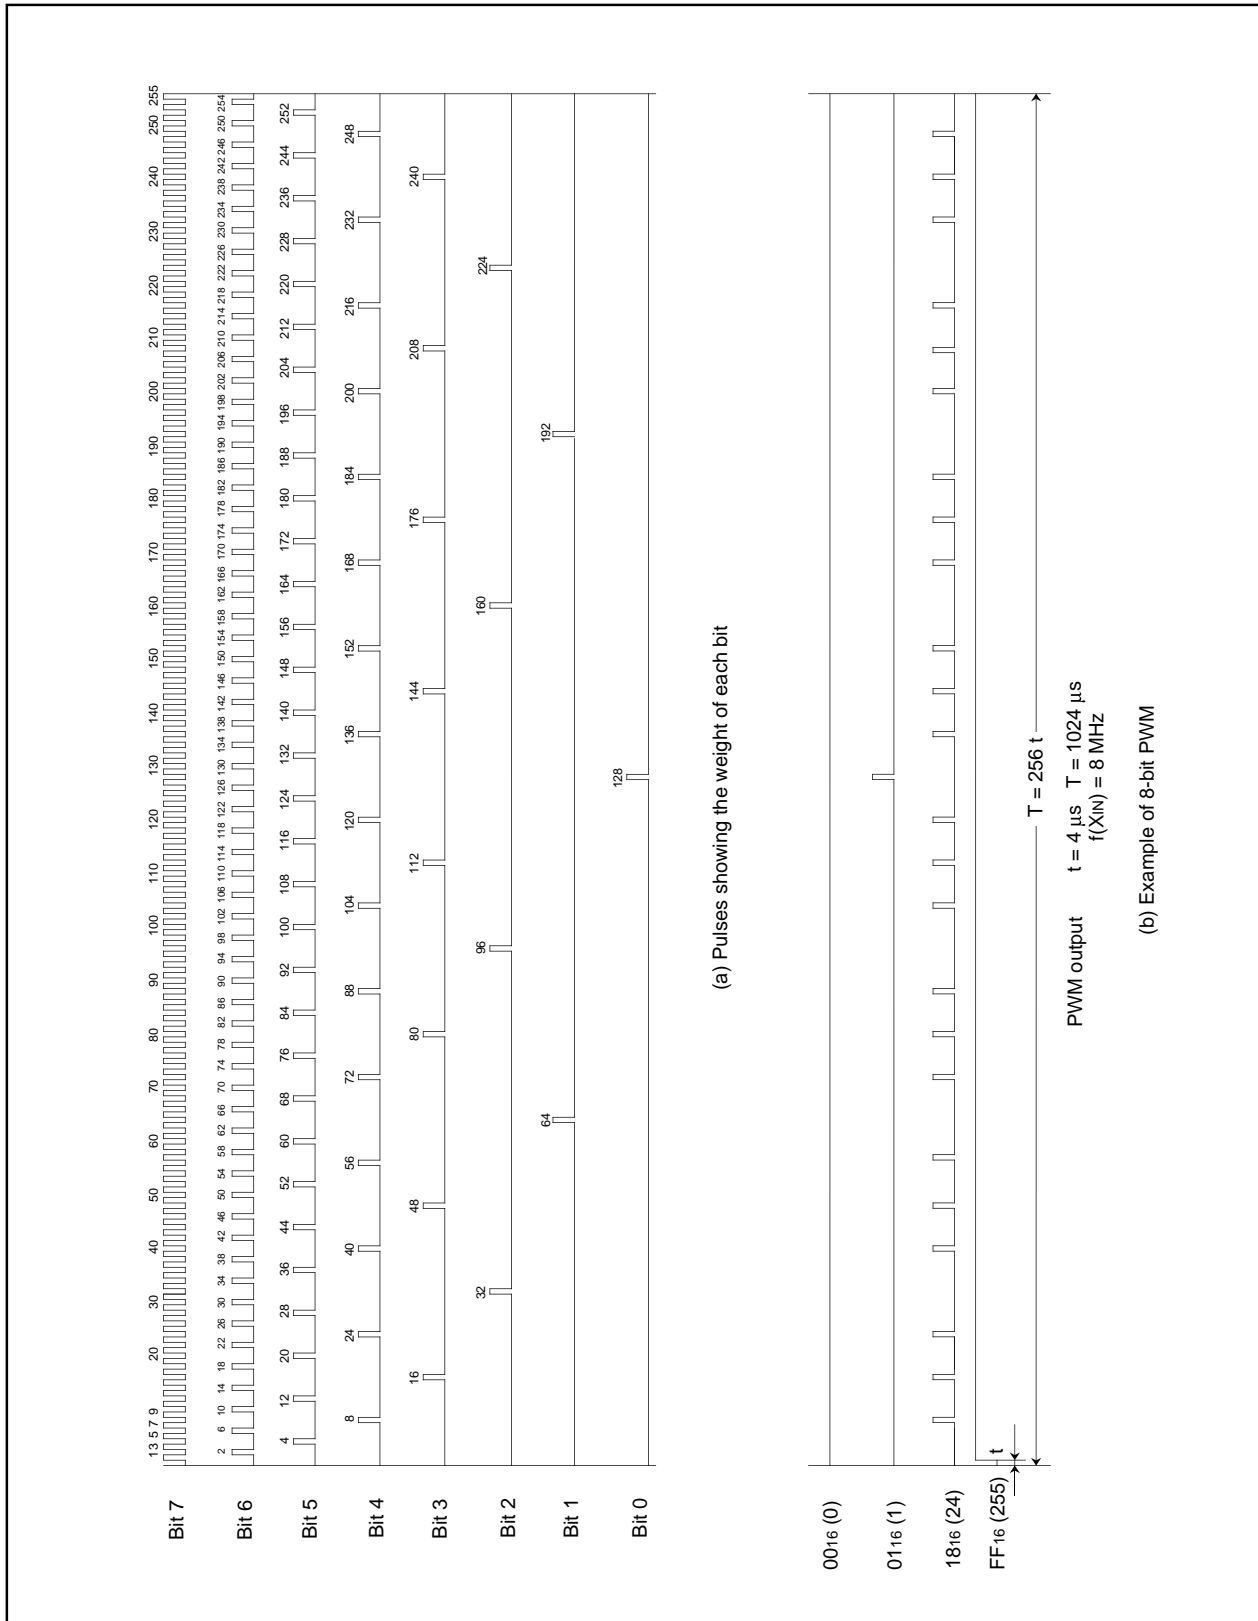

Fig. 14. 8-bit PWM timing
Figure 14 shows the 8-bit PWM timing. One cycle (T) is composed of 256 (28) segments. The 8 kinds of pulses relative to the weight of each bit (bits 0 to 7) are output inside the circuit during 1 cycle. Refer to Figure 14 (a). The 8-bit PWM outputs waveform which is the logical sum (OR) of pulses corresponding to the contents of bits 0 to 7 of the 8-bit PWM register. Several examples are shown in Figure 14 (b). 256 kinds of output ("H" level area: 0/256 to 255/256) are selected by changing the contents of the PWM register. A length of entirely "H" output cannot be output, i.e. 256/256.